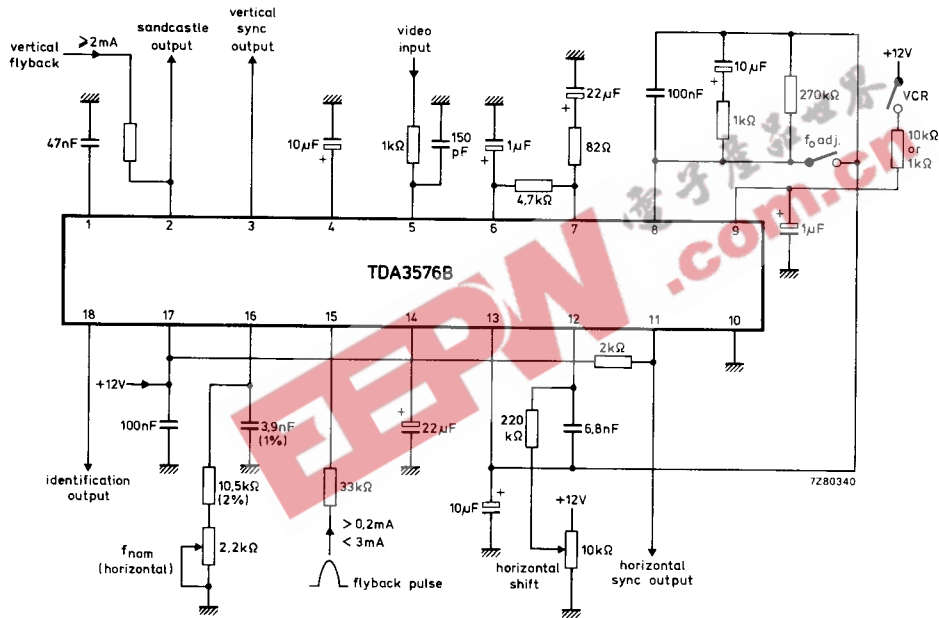

Fig. 3 Application circuit diagram.
**APPLICATION INFORMATION** (see also Fig. 3)
Stable components should be chosen for good frequency stability. For adjusting the frequency a part of the total resistance must be variable. This part must be as small as possible, because of poor stability of variable carbon resistors. The oscillator can be adjusted when pins 8 and 13 are short circuited (see Fig. 3).